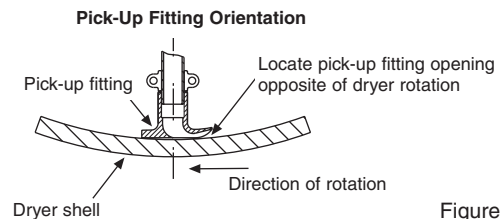

Figure 3
Make sure the support bracket (E) is vertical and the syphon pick-up fitting is at the bottom of the dryer. The pick-up fitting must be pointed into the rotation of the dryer (see Figure 3). Adjust the circular portion of the support bracket so that it is 1/4" (6 mm) back from the end of the support tube. Tighten support bracket clamp bolts (M). Set the pick-up fitting clearance by placing a gauge in the center of the pick-up fitting (contact Kadant Johnson for clearance specification). Tighten the small set screw in the side of the pick-up fitting and double check the clearance. Secure into final position by tightening bolt/nut (B & C). If the desired pick-up fitting clearance can not be obtained, the vertical pipe (F) can be cut off allowing for more adjustment.